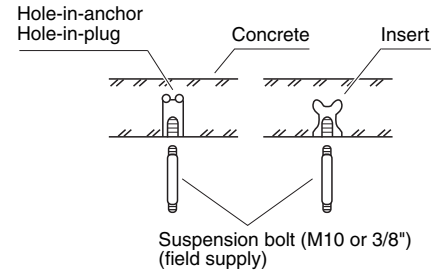

Fig. 3-86
- Insert suspension bolts as shown in Fig. 3-86
- (2) Screw in the suspension bolts allowing them to protrude from the ceiling as shown in Fig. 3-86. (Cut the ceiling material, if necessary.)